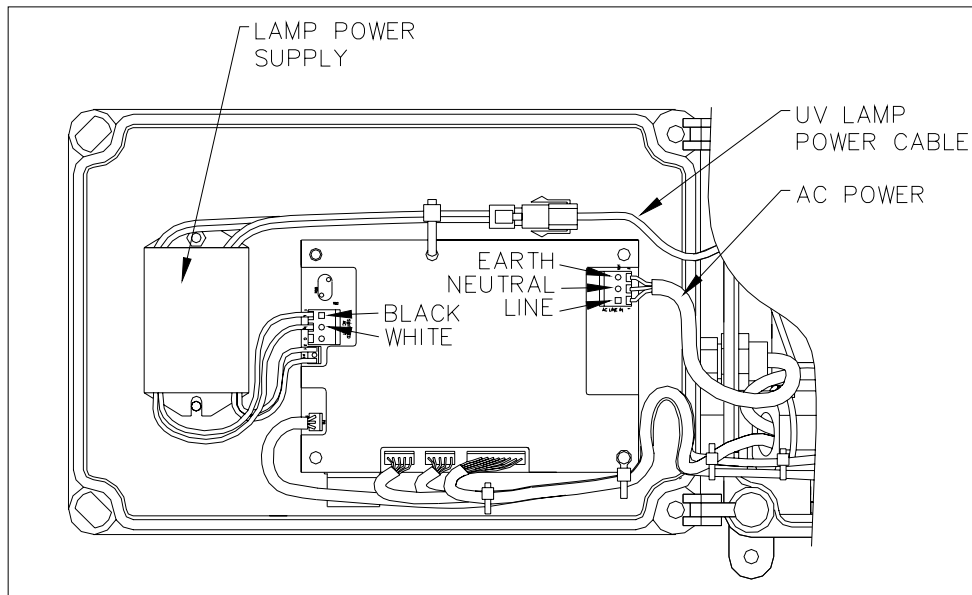

Figure 14. Location of Lamp Power Supply and Wiring.
3. Locate the UV Lamp power supply on the inside of the enclosure cover. Refer to Figure 14.
4. Locate and unplug the UV lamp cable from the lamp power supply cable as shown in Figure 14 of Section 9.